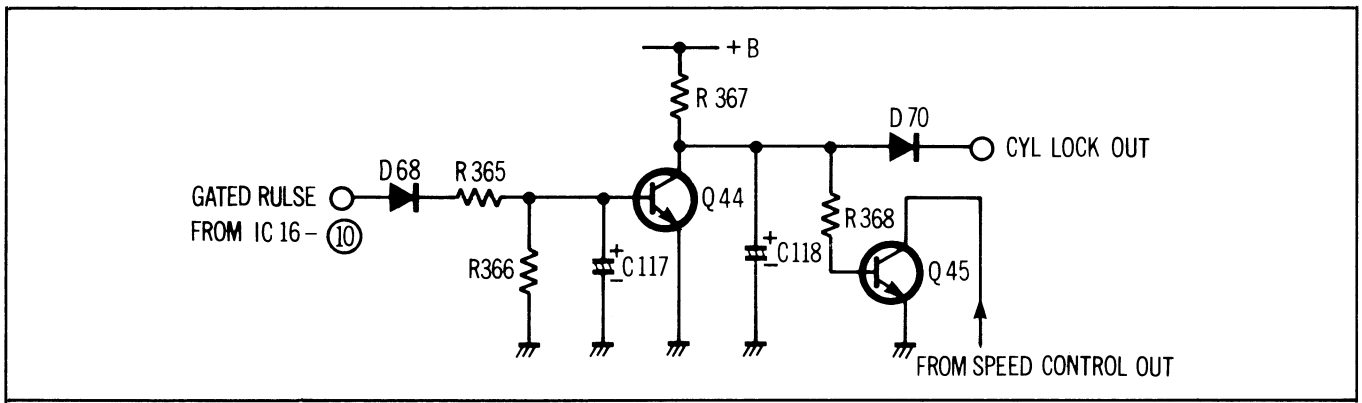

Figure 2-146
If the cylinder is stalled (stopped) for any reason, no gated pulse would appear and Q44 would turn off. Then +B through R367 is sent out as a CYL lock (H) at P238-(2). At the same time, Q45 would turn on to ground the CYL speed out signal to protect the motor from excessive drive (See Fig. 2-146).